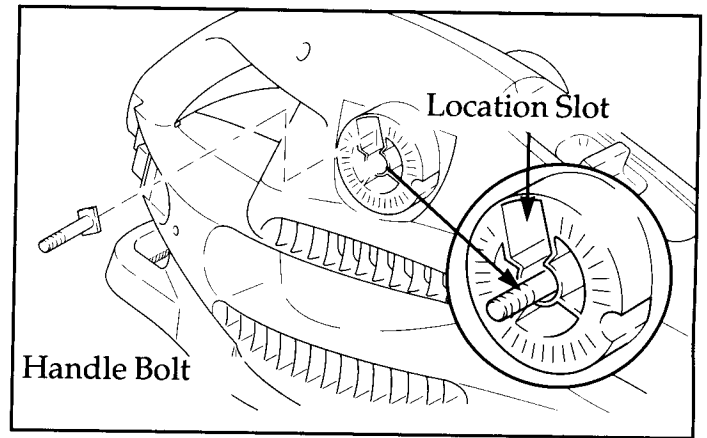

Figure 5
1. With the unit on the ground place the handle bolt in the location slot and slide into place. Figure 5.